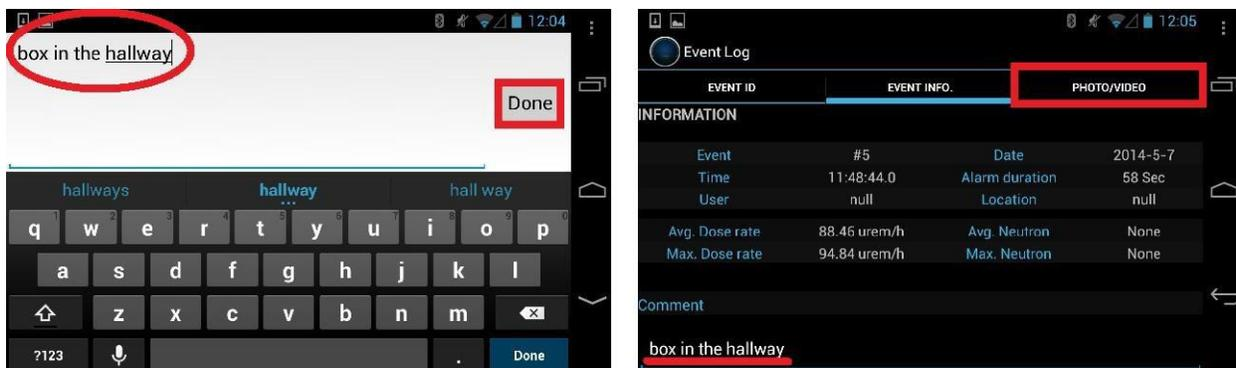
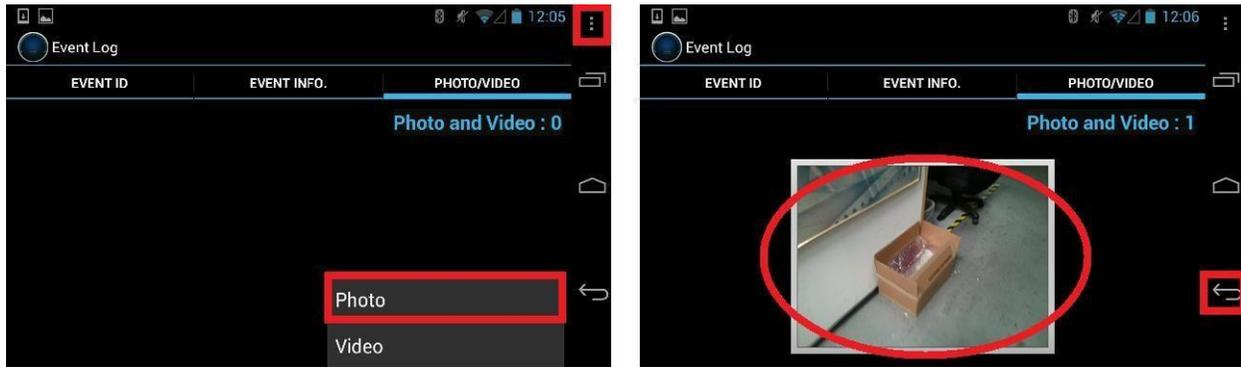

Figure 4.22. Attach Comment example
Figure 4.23. Attach Photo example
- b. Type your comment and touch **Done** (Figure 4.22, left). To add more text, repeat 2.a and 2.b.
3. To attach a photo, touch the **Photo/Video** tab (Figure 4.22, right) to open the Photo/Video screen (Figure 4.23).
- a. Touch the menu button  and select either **Photo** or **Video** (Figure 4.23, left).
You will automatically be returned to the Photo/Video page. The image is now displayed as part of the event (Figure 4.23, right). Repeat steps 3.a through 3.c to add more images.
4. Touch the return key  on the lower right side of the screen (Figure 4.23, right) to return to the Event Log.